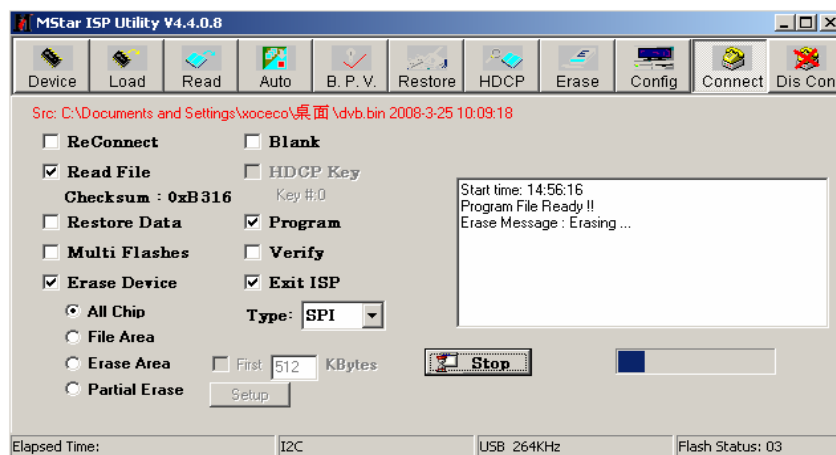

Fig. 5 Burning Configuration
- 5) Select menu “**Auto**”, then select items “**All chip**”, “**program**” and other configuration as **Fig. 5**